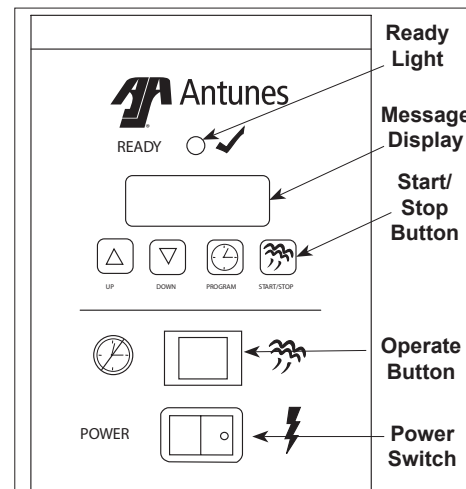

Figure 3. Control Panel (Timer Models)
The control is used to set the desired steam time (up to 99 minutes, 59 seconds). When the Start/Stop button (Figure 3) is pressed, the Control Board applies power to the water pump/solenoid at regular intervals for the duration of the displayed cycle time. The display counts down to zero, sounds an audible signal when the cycle is complete, and then reverts back to the original programmed cycle time. The unit is ready for the next cycle when the green ready light is on.
1. Turn the power on (Figure 3).